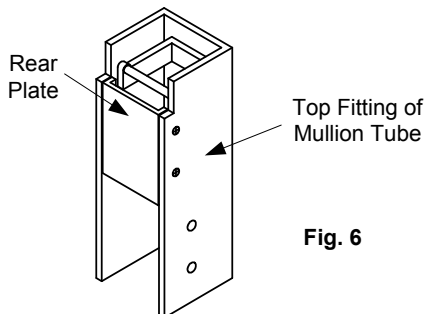

Fig. 6
1. Releasing the fixing screws on both sides of the top fitting for removing the rear plate, see Fig. 6. After the rear plate is removed, release three (3) fixing screws on the unlock driving plate, see Fig. 7.